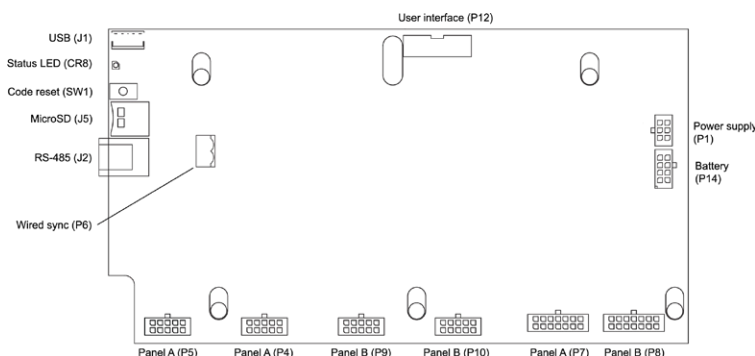

FIGURE 5-6
3. With power turned on and the unit in Operate mode, press and hold the ACCESS CODE RESET button (on the upper left side of the circuit board) for ten seconds. (See shaded area in Figure 5-6.)